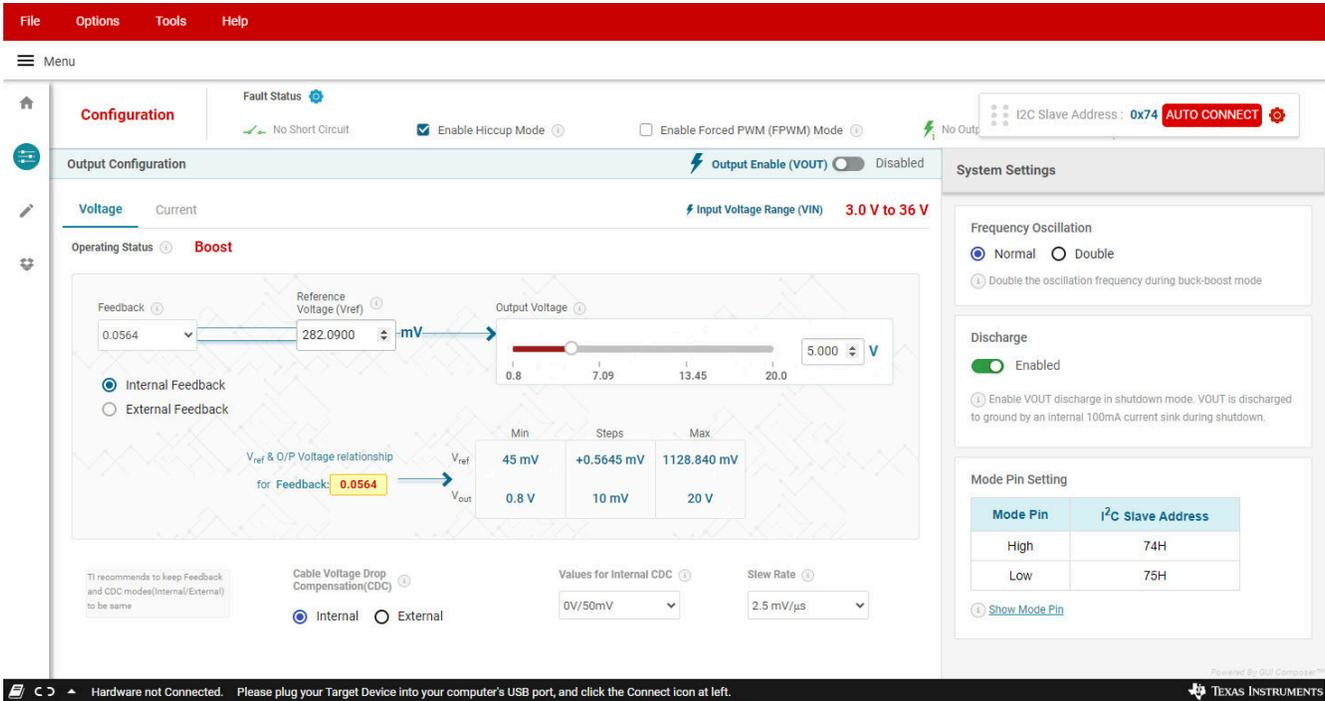

Figure 3-4. GUI User Interface of TPS55287Q1EVM-085
4. Click the *Start* button. This shows the GUI user interface of TPS55287Q1EVM-085 (Figure 3-4).